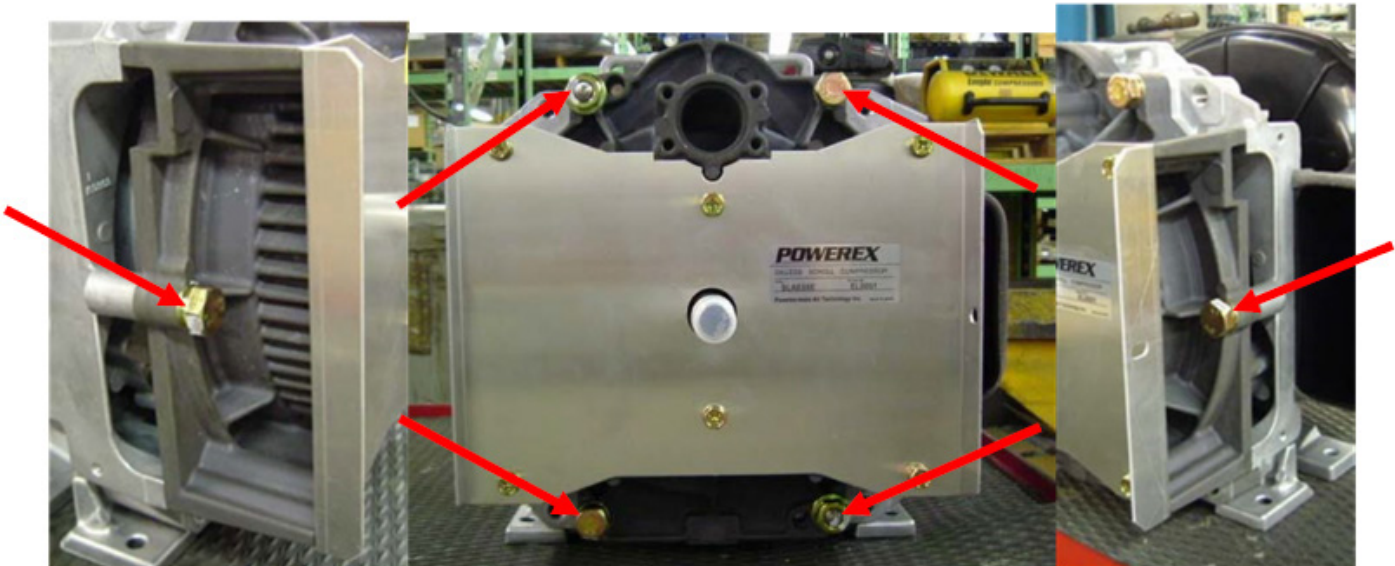

Figure 78: Fixed Scroll Fastener Locations
2. Remove the Fixed Scroll (FS) by removing the fasteners highlighted in Figure 78.
6. Torque the FS fasteners (see Figure 78) in two stages:
15. Torque the FS fasteners (see Figure 78) in two stages: